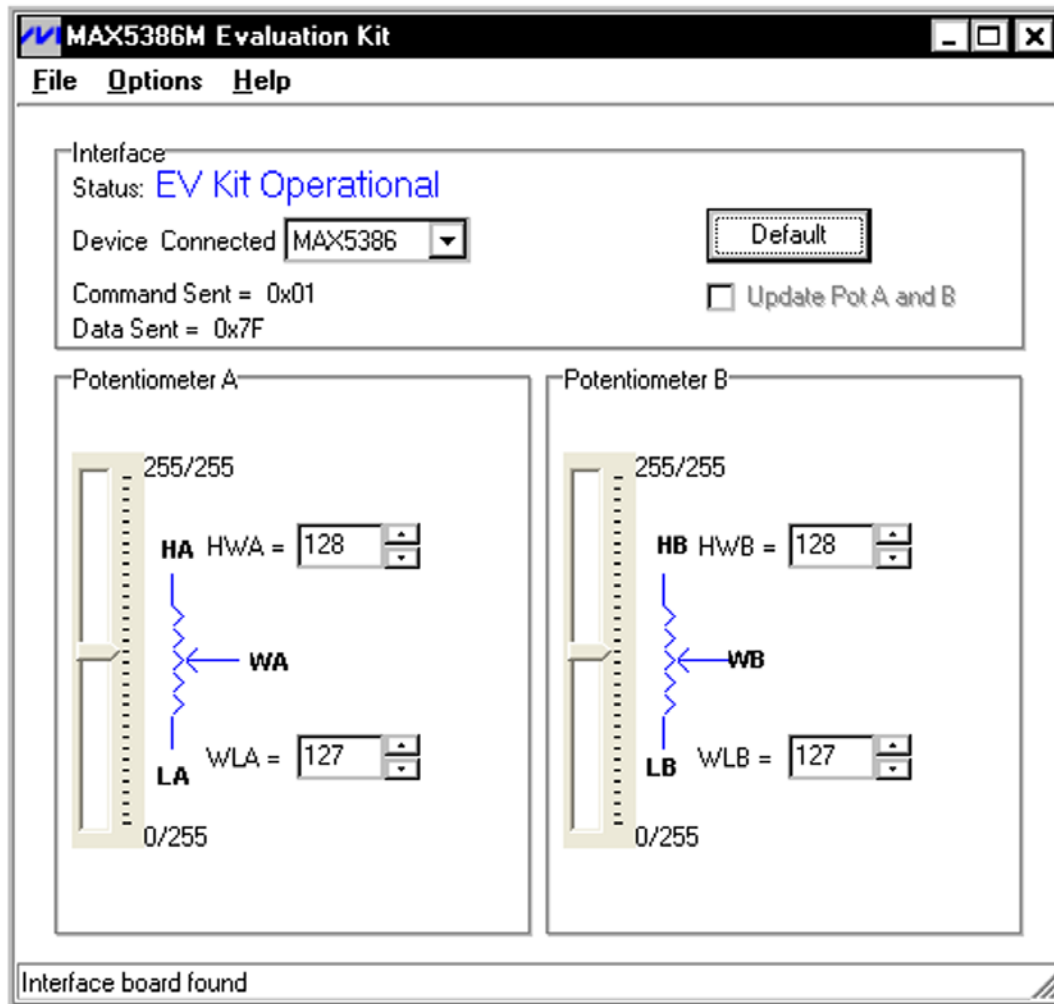
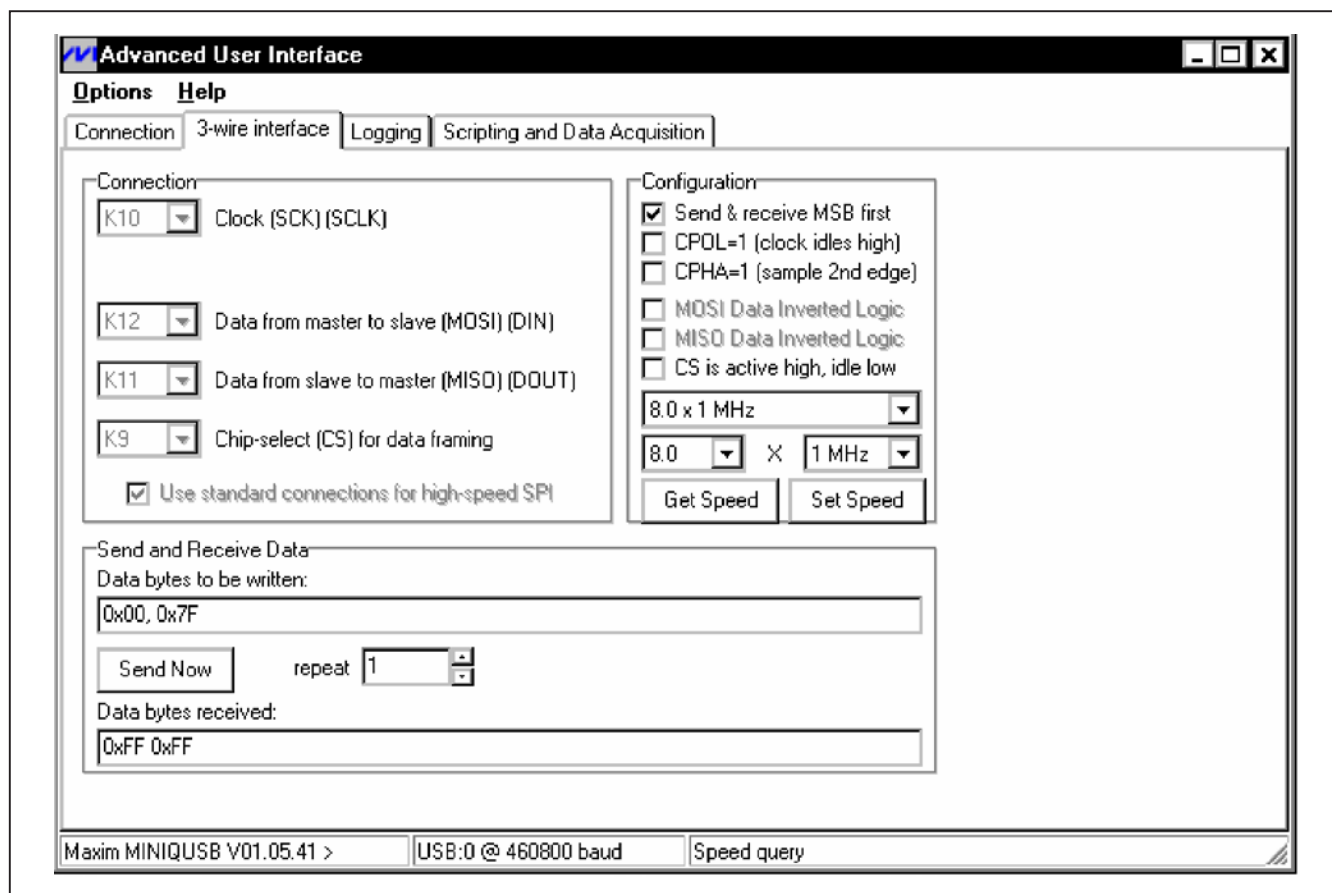

Figure 1. MAX5386M Evaluation Kit Software Main Window
Figure 3. Simple Low-Level 3-Wire Interface
- 10) Using the **Device Connected** combo box, select MAX5386 from the list and then press the **Default** button. The EV kit software main window appears, as shown in Figure 1.
The MAX5386M EV kit software GUI shown in Figure 1 is a Windows program that provides a convenient means to control the MAX5386M dual potentiometer. Use the mouse or press the Tab key to navigate through the GUI controls. The correct SPI write operations are generated to update the MAX5386M internal memory registers when any of these controls are executed.
There are two methods for communicating with the EV kit, through the normal user-interface panel (Figure 1) or through the SPI commands available by selecting the **3-Wire Interface** (Figure 3) utility from the main program's **Options | Advanced Users Interface** menu bar. A window is displayed that allows SPI send/receive data operations.
On the **3-wire interface** tab, the **Connection** group box defines the hardware connections of the interface. For the EV kit, **K10** is selected from the **Clock (SCK)(SCLK)** drop-down list, **K12** from the **Data from master to slave (MOSI)(DIN)** drop-down list is disabled, **K11** from the **Data from slave to master (MISO)(DOUT)** drop-down list, **K9** from the **Chip-select (CS) for data framing** drop-down list, and **Use standard connections for high-speed SPI** checkbox is checked (see Figure 3).
The **Configuration** group box allows the user to configure the logic level and data rate. For the EV kit, check the **Send & Receive MSB first** checkbox and verify that the **CPOL=1(clock idle high)** and **CPHA=1(sample 2nd edge)** checkboxes are unchecked (see Figure 3).
**Note:** The SPI dialog boxes accept numeric data in hexadecimal format. Hexadecimal numbers must be prefixed by \$ or 0x. Figure 3 shows a simple SPI write-byte operation using the included 3-wire interface diagnostics tool. In this example, the software is sending command 0x00 (write to potentiometer A) and data 0x7F. The data sequence sets the MAX5386M wiper position to 127.